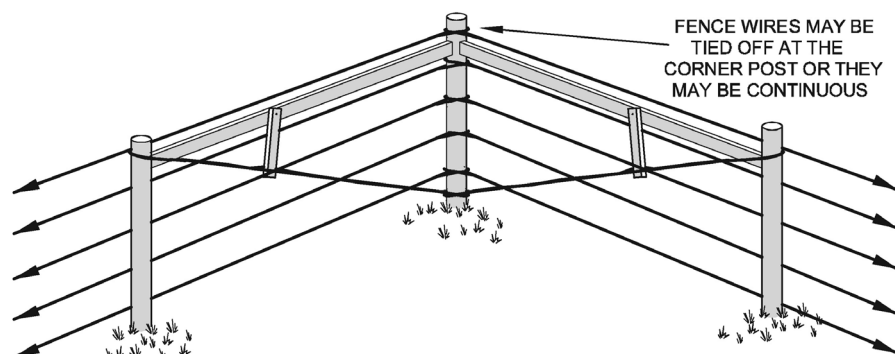

Figure 14 Shared-Post Brace at a Corner (for changes greater then 60°)
- for 60° to 90° corners use a standard shared-post corner brace as in Figure 14
For changes of fence direction from 60° to 90° , a normal shared-post corner will be effective (Figure 14, below). This brace can be used at a tie off corner or used between tie points with the fence wires continuous around the brace (in this case special stapling techniques are used to reduce wire-to-post friction around the corner post ensuring flexibility of the wires when loaded; refer to Factsheet 307.100-2 **Fence Wire: - Dispensing, Stapling, Joining, Tying, Tensioning and Grounding**).
For changes of direction greater than 60° use the brace in Figure 14, previous page.